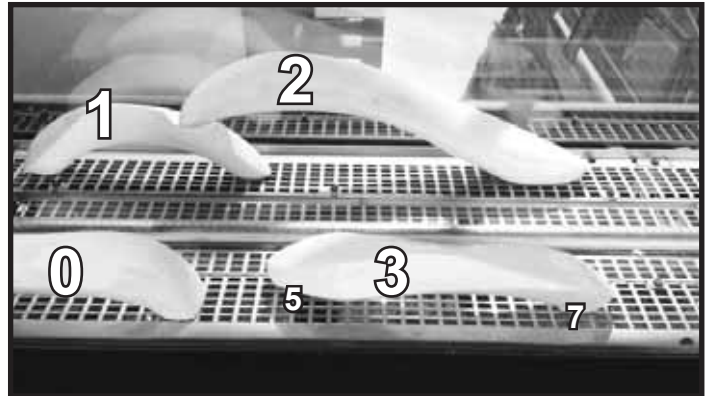

Figure 6. (SRV2310-753)
7. **(SRV2310-753):** Install Log #3 onto shoulder screws #5 and #7 by aligning the log placement holes with the shoulder screws. See Figure 6.